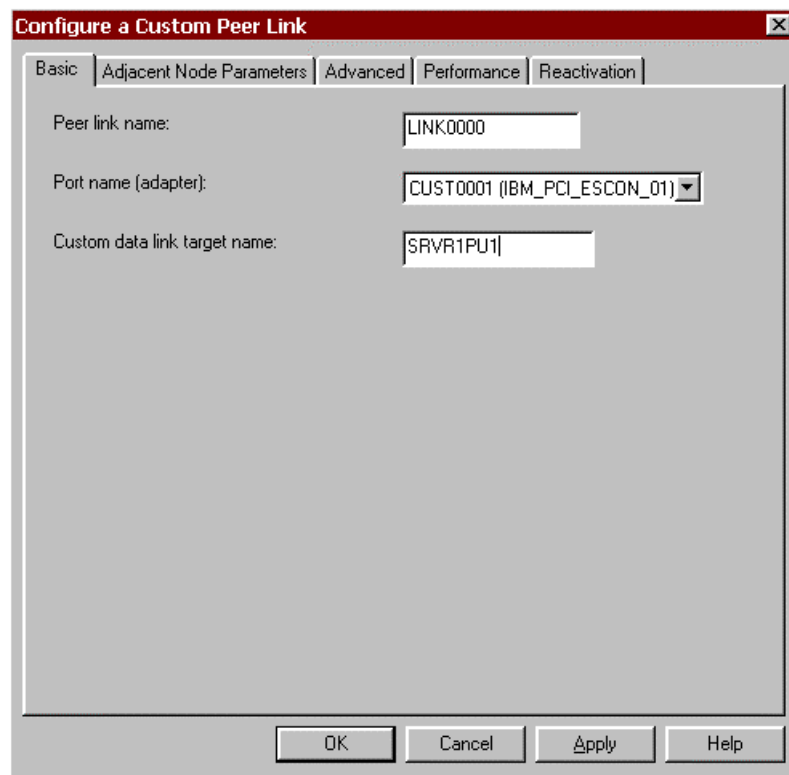

Figure 11-26. Configure a Custom Peer Link - Basic
- The **Basic** tab of the *Configure a Custom Peer Link* screen (Figure 11-26) will display. Note that the **Reactivation** is new beginning in version 4 of the configuration utility.